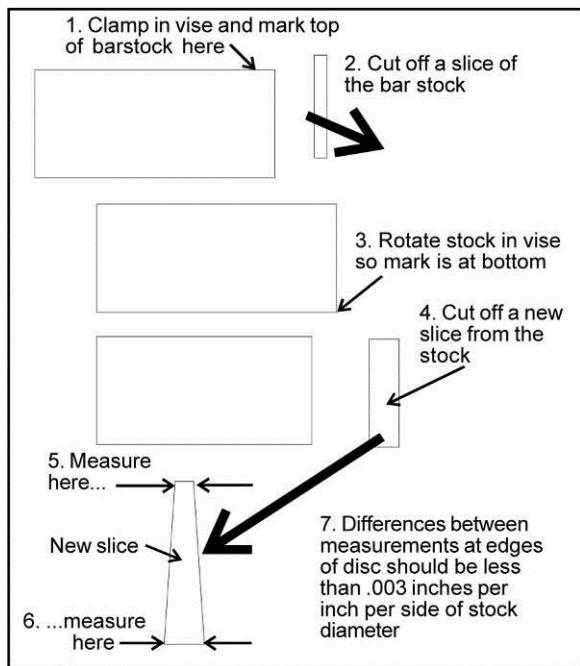

Fig 18.
1. With bar stock securely clamped in the vise, make a cut through the bar stock. (See Figure 18.)